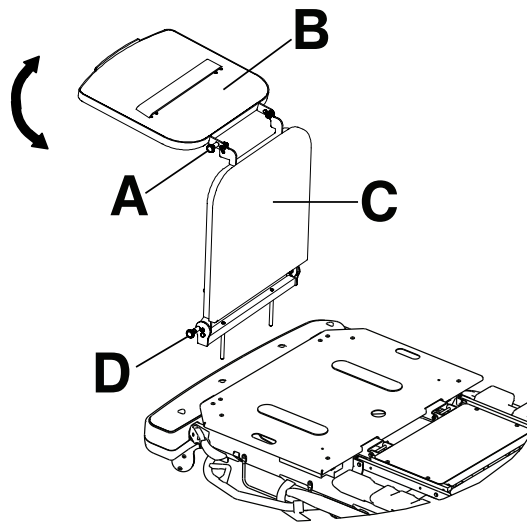

Figure 7 – Defibrillator tray/foot extender
1. Pull out the top knob (A) (Figure 7).
2. Pivot the defibrillator tray (B) until the tray is flat over the foot end of the product. Release the top knob (A). Make sure that the defibrillator tray is locked in place.
To convert the defibrillator tray/foot extender to a foot extender (Figure 7):